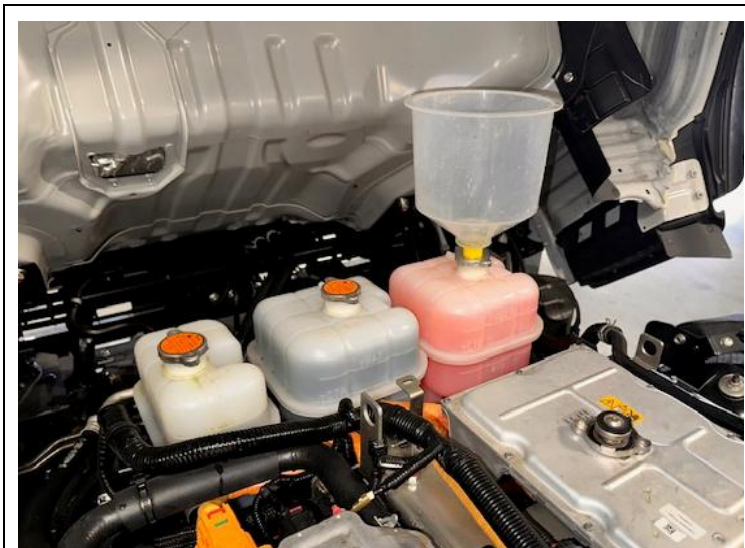

Figure 41
79. Install a spill-free funnel onto the EV motor cooling reservoir. (See Figure 41.)